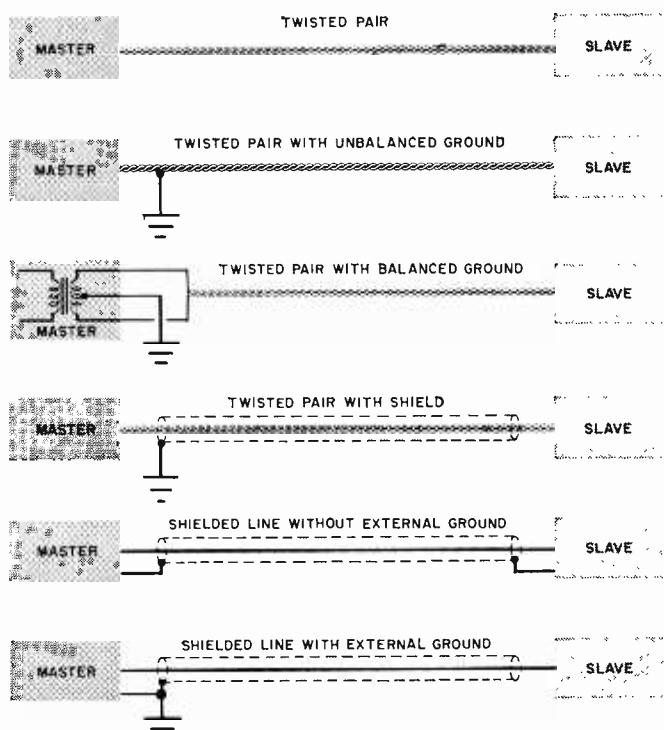

Fig. 2. Intercoms may be wired in any one of the six versions detailed above. Some systems reduce noise pickup, some don't.
**SINGLE WIRED UNIT** In its very simplest form, an intercom will have one "master" unit and one "slave" unit. Operation of such a system is shown in Fig. 1. The *master* unit consists of the loudspeaker (which doubles as a microphone) plus an amplifier and changeover switch, while the *slave* unit is nothing more than a loudspeaker. The *master* and *slave* are electrically coupled by two interconnecting wires. The two wires are often twisted or shielded—or both—to minimize a.c. hum and noise pickup. The hum and noise pickup can also be minimized by using various other circuits, as shown in Fig. 2.